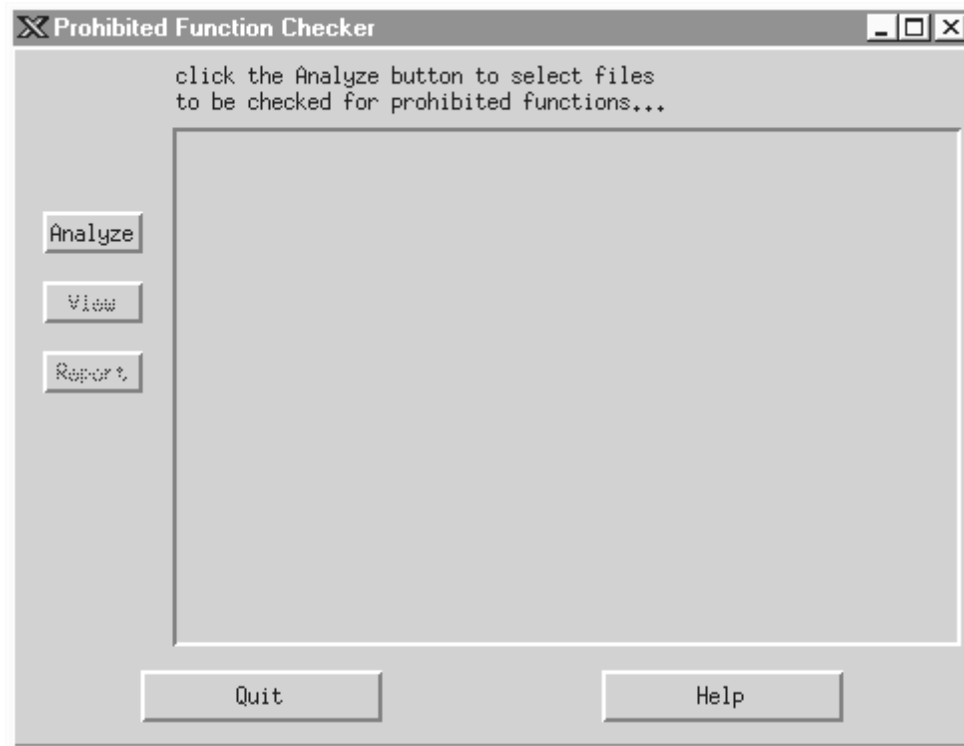

Figure 4.5.1-10. Prohibited Function Checker Pop-up
1. From the *SSI&T Manager Main Screen* (Figure 4.5.1-8), click on the **T**ools menu, then choose **S**tandards Checkers, and then choose **P**rohibited Function Checker to bring up the screen shown in Figure 4.5.1-10